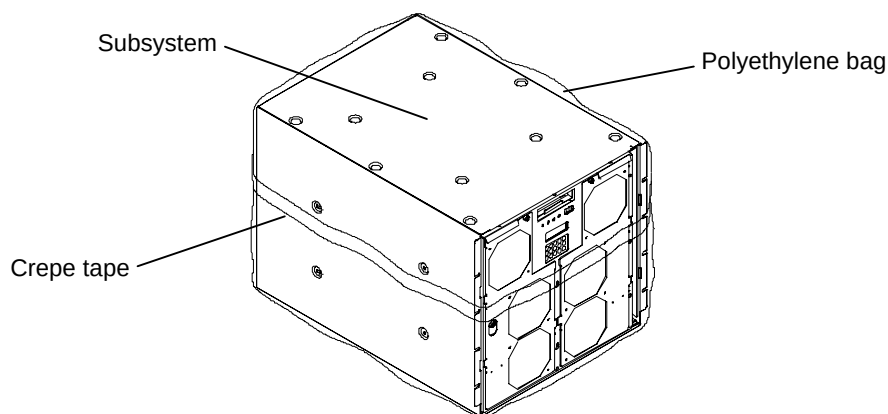
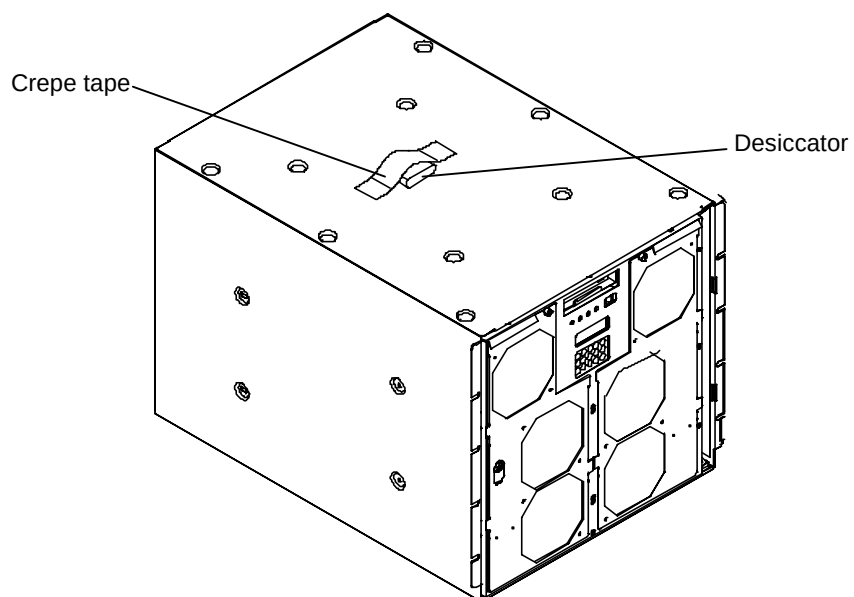

Figure 3.1.2 Subsystem without External Packaging
Figure 3.1.3 Location of Desiccator
- (2) Figures 3.1.2 to 3.1.4 show the subsystem without external packaging.
- (3) Unpacking
- ① Loosen the polyester bands.
- ② Remove nails for T/W.
- ③ Remove the external packaging and packing materials.
- ④ Take the subsystem out of the polyethylene bag.
- ⑤ Keep keys (2pcs) in the box attached to the unit. (This key is used to open the front panel, so be careful not to lose.)
- ⑥ Remove shock absorbing material and tapes, etc. attached to the device.
- ⑦ Remove desiccating agent on the top of the device. (See Figure 3.1.3.)